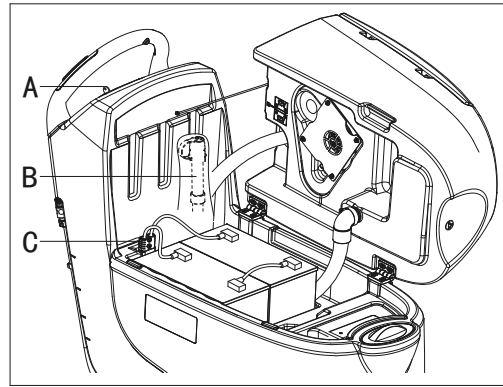

Figure 26
1. Turn the ignition key (A, Figure. 26) to "0".
2. Disconnect the power supply cable (C, Figure. 26) from the electrical mains.